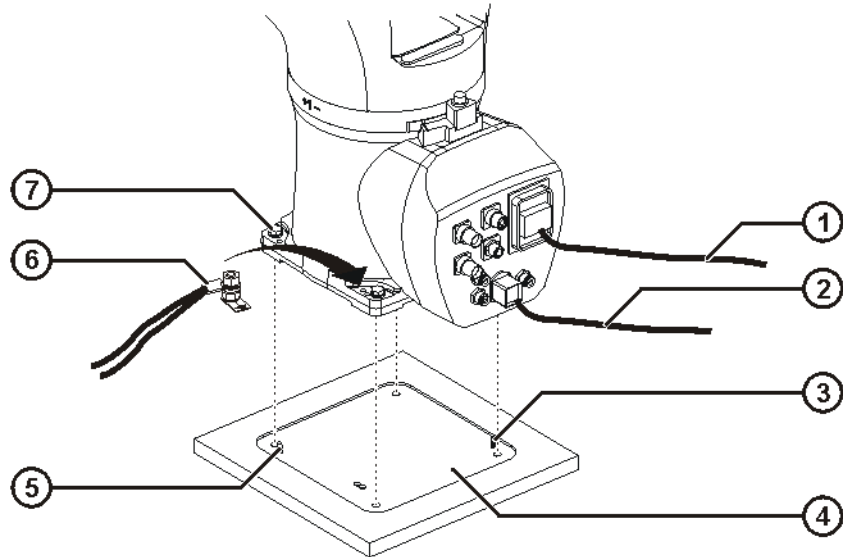

Fig. 8-3: Installing floor-mounted robots
1. Check that the pins are undamaged and fitted securely (>>> Fig. 8-3).